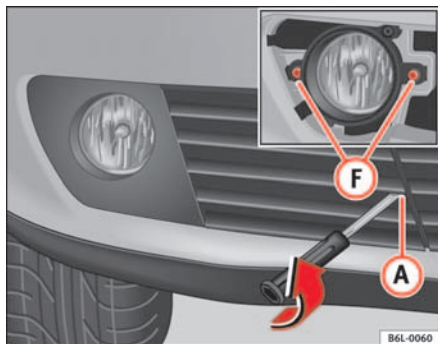

Fig. 150 Fog lights
- Undo the two fastening screws (F) ⇒ fig. 150 and when released unplug the connector.
- Remove the grille, taking out the screw (A) ⇒ fig. 150, carefully pull the grille on the side of the screw and release the cover.